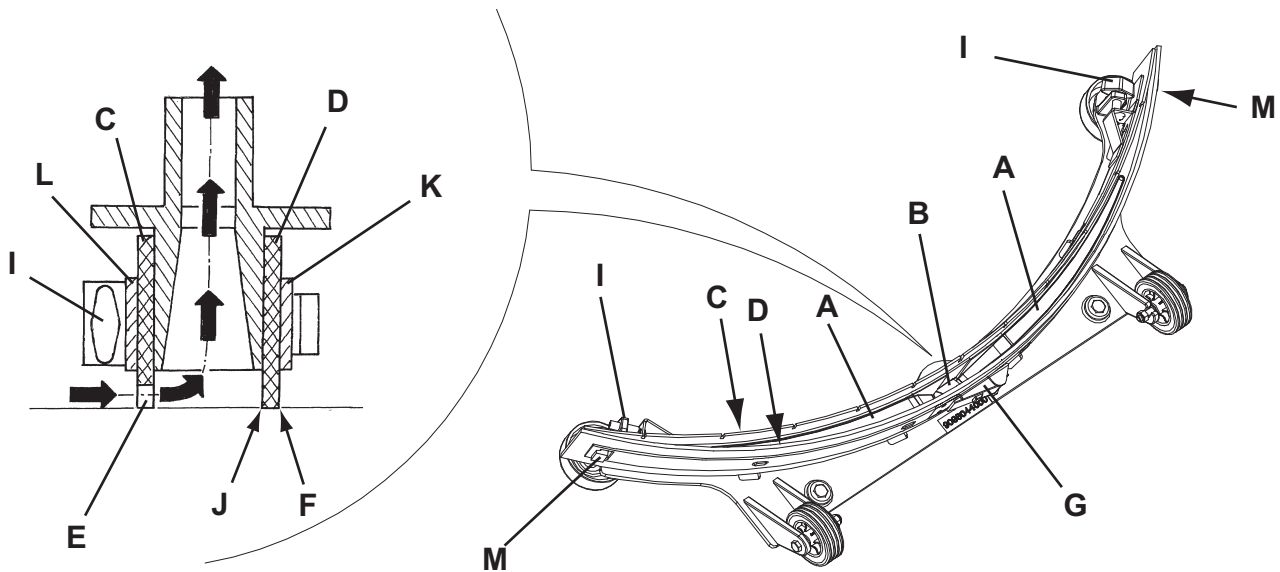

Figure 5
3. Lower the squeegee (25) with the lever (10).
4. Loosen the handwheels (26) and remove the squeegee (25).
5. Disconnect the vacuum hose (15) from the squeegee.
6. Wash and clean the squeegee (Fig. 5). In particular, clean the compartments (A, Fig. 5) and the vacuum hole (B) from dirt and debris. Check the front blade (C) and the rear blade (D) for integrity, cuts and tears; if necessary replace them (see the procedure in the following paragraph).
1. Clean the squeegee (Fig. 5) as shown in the previous paragraph.
2. Check that the edge (E, Fig. 5) of the front blade (C) and the edge (F) of the rear blade (D) lay down on the same level, along their length; otherwise adjust their height according to the following procedure:
- Remove the tie rod (G), disengage the fasteners (M) to adjust the rear blade (D); then engage the fasteners and install the tie rod.
- Loosen the handwheels (I) and adjust the front blade (C); then tighten the handwheels.
3. Check the front blade (C) and rear blade (D) for integrity, cuts and tears; if necessary replace them as shown below. Check the front corner (J) of the rear blade for wear; if necessary, overturn the blade to replace the worn corner with an integral one. If the other corners are worn too, replace the blade according to the following procedure:
- Remove the tie rod (G), disengage the fasteners (M) and remove the retaining strip (K), then replace/overturn the rear blade (D).
- Unscrew the handwheels (I) and remove the retaining strip (L), then replace the front blade (C).